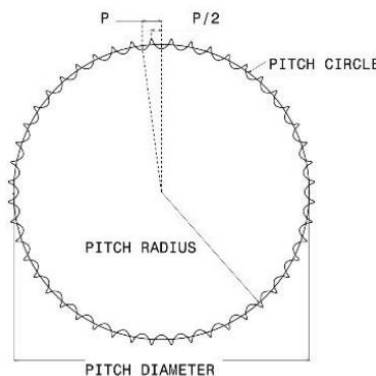

Figure 2.1 Acrylic gear
2.1 Preparation of acrylic gears using CNC laser engraving / cutting machine as shown in Figure 2.1